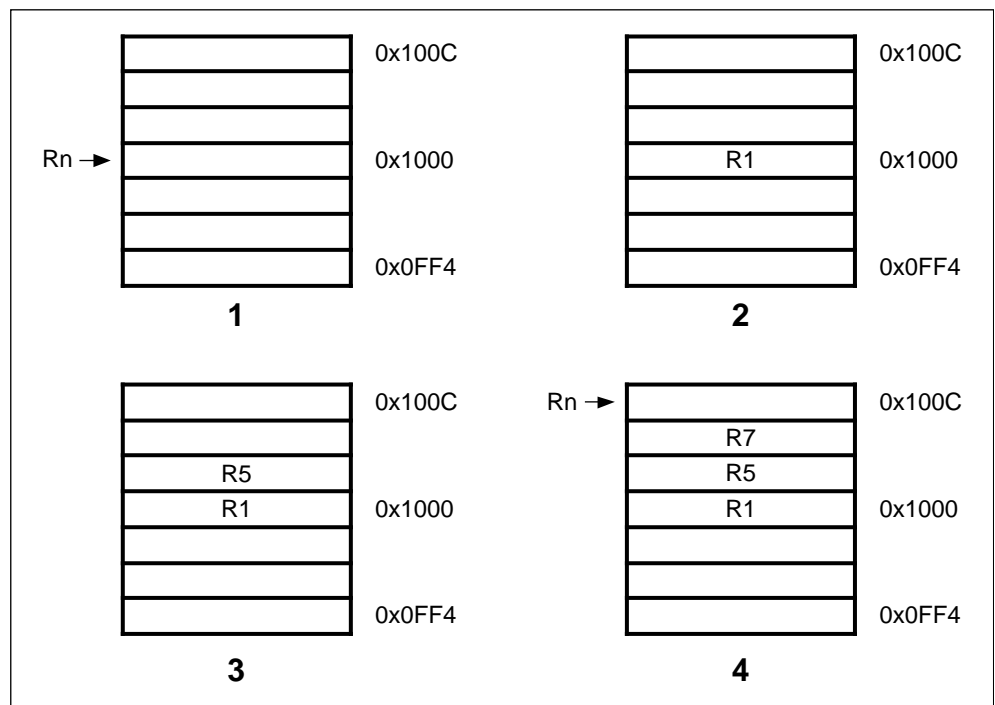
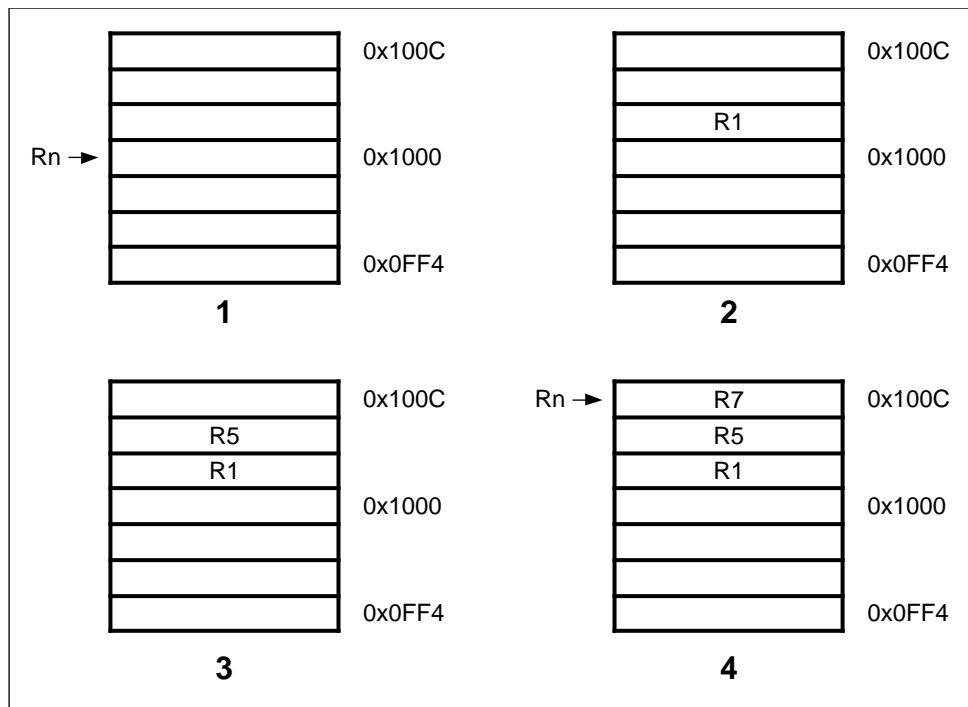
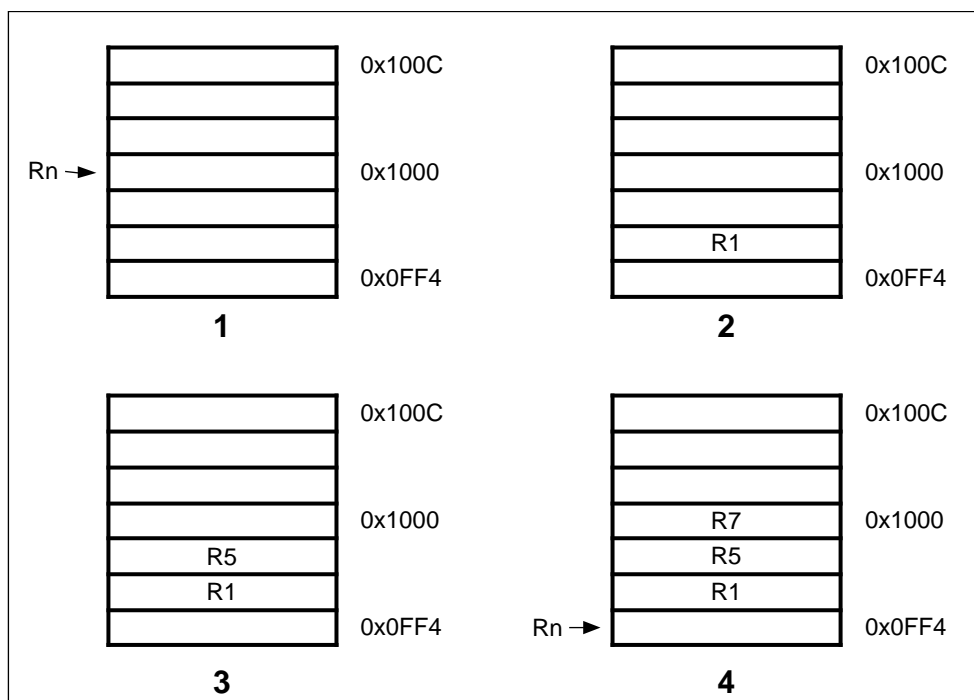
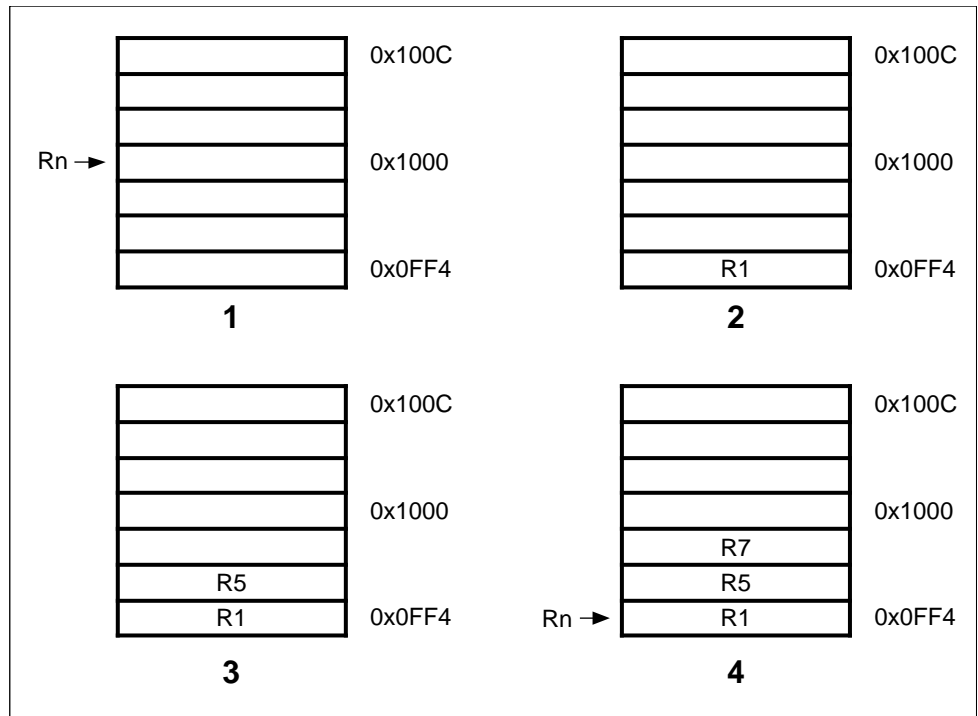

Figure 4-19: Post-increment addressing
Figure 4-20: Pre-increment addressing
Figure 4-21: Post-decrement addressing
Figure 4-22: Pre-decrement addressing
The transfer addresses are determined by the contents of the base register (R_n), the pre/post bit (P) and the up/down bit (U). The registers are transferred in the order lowest to highest, so R_{15} (if in the list) will always be transferred last. The lowest register also gets transferred to/from the lowest memory address. By way of illustration, consider the transfer of R_1 , R_5 and R_7 in the case where $R_n=0x1000$ and write back of the modified base is required ($W=1$). *Figure 4-19: Post-increment addressing*, *Figure 4-20: Pre-increment addressing*, *Figure 4-21: Post-decrement addressing* and *Figure 4-22: Pre-decrement addressing* show the sequence of register transfers, the addresses used, and the value of R_n after the instruction has completed.